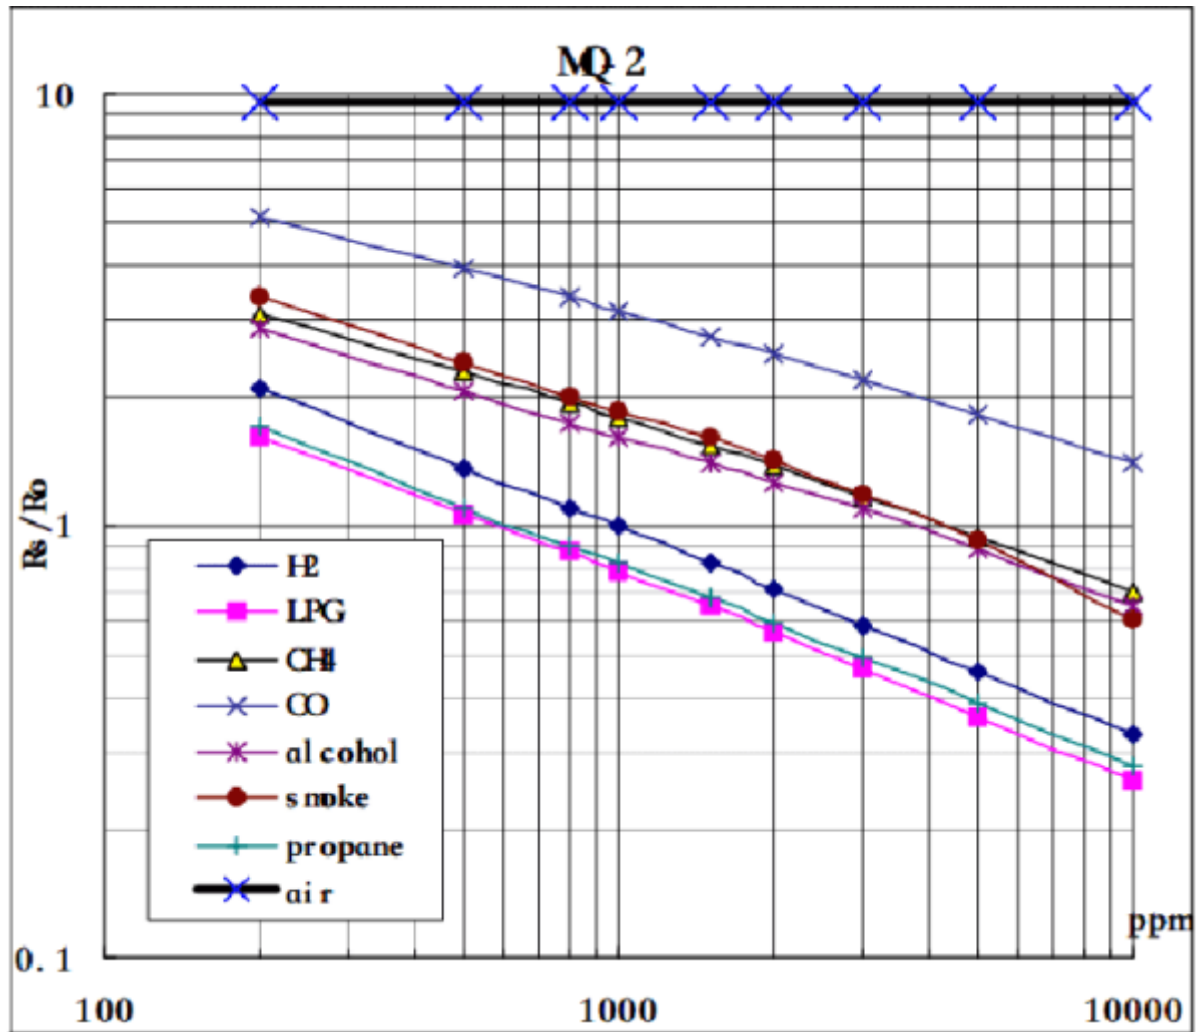

Figure 2.5 MQ2 Sensitivity characteristics. Source: <https://www.mouser.com/datasheet/2/321/605-00008-MQ-2-Datasheet-370464.pdf>}}
The MQ-2 sensor functions as a voltage divider. The analog voltage output varies accordingly with the concentration of combustible gasses and its interaction with the oxygen, thus yielding a higher voltage proportional to the quantity of the present gas. The sensor cannot determine which gas is present, however the interaction with any of the possible measurable gasses creates a distinct pattern that has been provided by the manufacturers, shown in Figure 2.5. By creating a code that follows the guidelines set by the manufacturer design we can then measure with a small margin of error, the concentration of distinct types of gasses in the air simply by analyzing the resistance ratio of the sensor (R_S/R_0).²⁾
- Specified in Figure 2.5 and in the specifications of the manufacturer, the sensor can only read gas concentrations between 200 and 10000ppm.